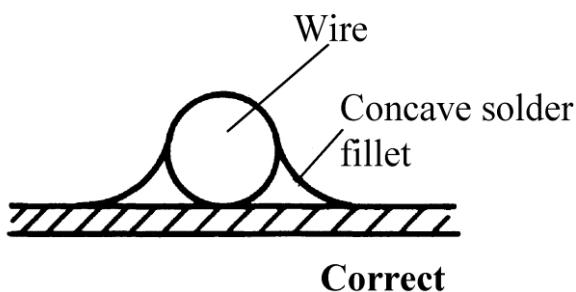

Figure 2
- Apply sufficient solder to form a fillet between the terminal and each side of the wire. (See Fig. 2 and 3).
The boundary of the solder at its junction with the part must be concave, not convex. (See Fig. 2 and 3).